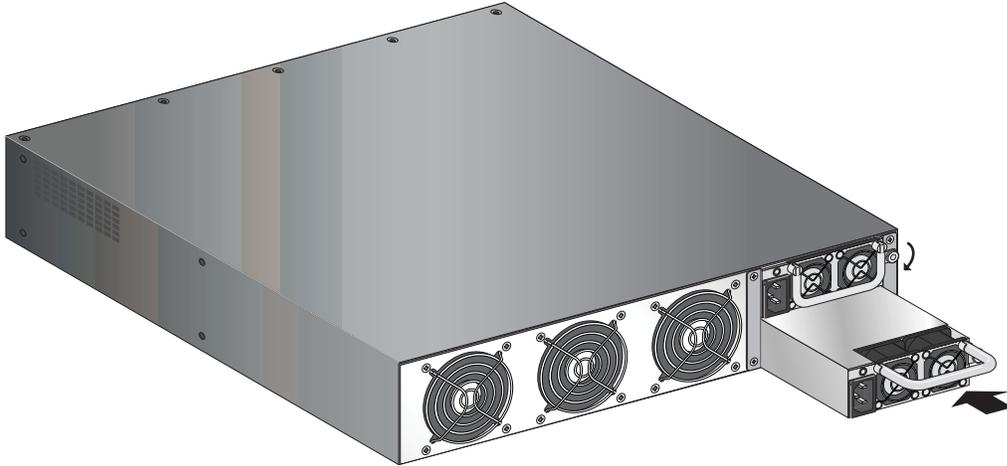

Figure 8. Power Supply Replacement
2. Use the handle to slide the power supply out of the device, as shown in Figure 8.